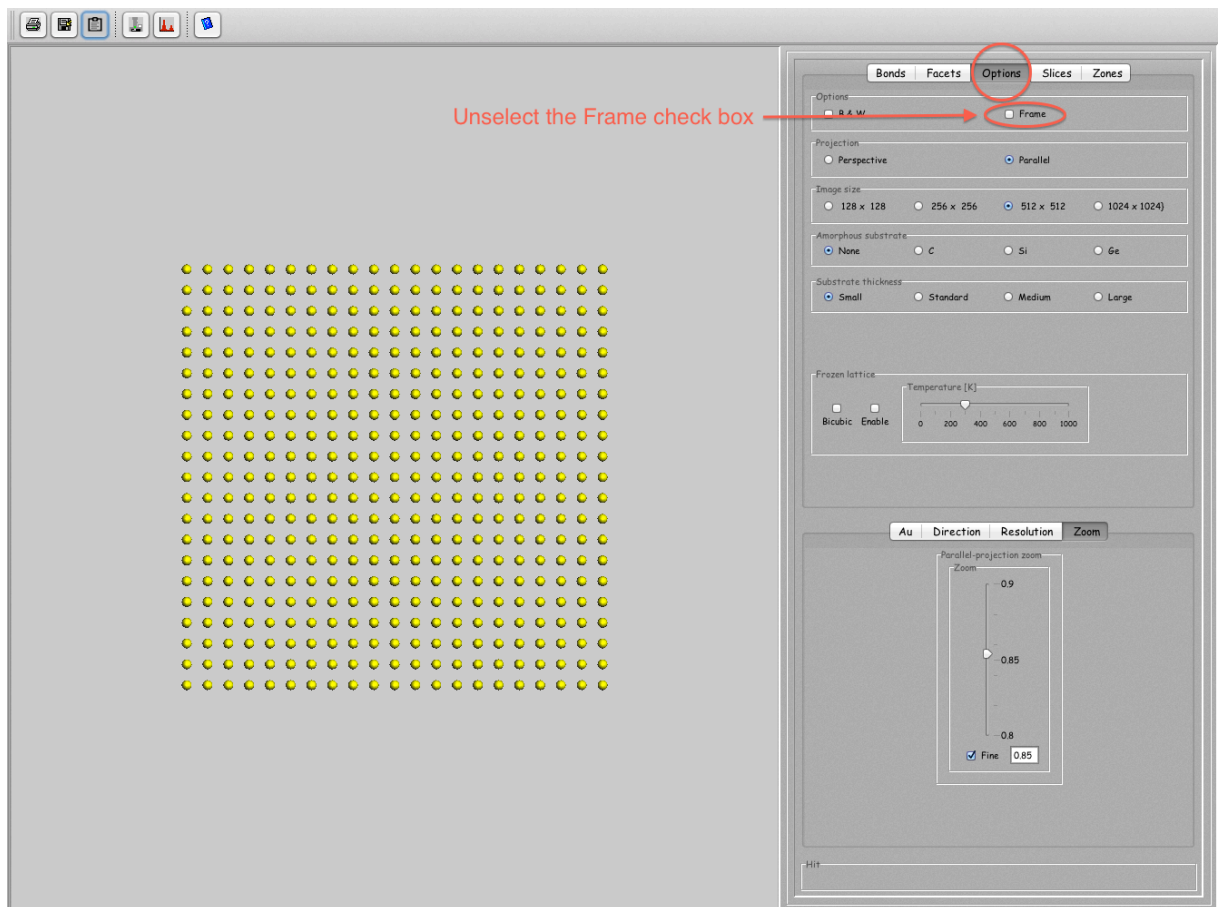

Figure 8: The unit cell frame can be hidden.
4. Select the *Options* tab and the *Frame* checkbox to hide the model frame (optional) (Fig. 8).
### 3.4 Hiding the model cell frame (Figure 8)